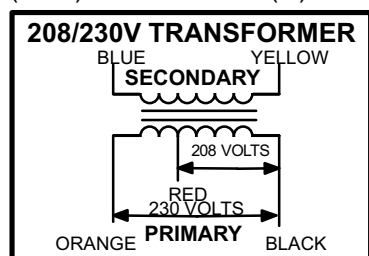

FIGURE 4
primary voltage taps as shown in figure 4, while 460 (G) and 575 (J) voltage transformers use a single primary voltage tap.